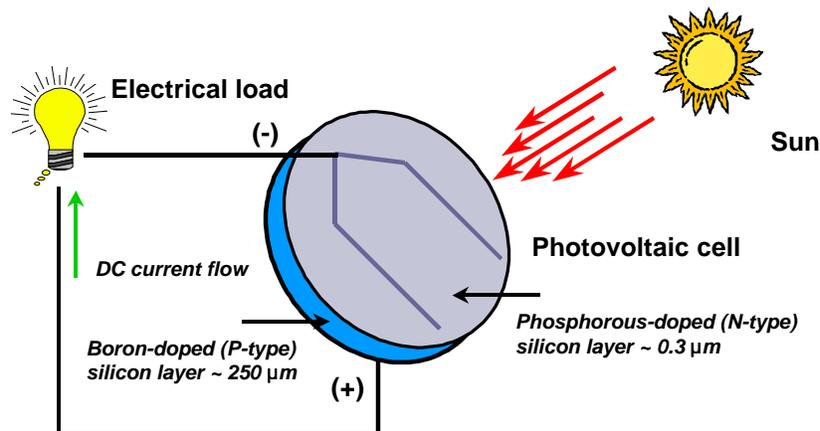

Figure 1. Diagram of photovoltaic cell.
| FIGURE 1. DIAGRAM OF PHOTOVOLTAIC CELL | 2 |
Q. *What are Photovoltaics (PV)?*
A. *Photovoltaic (PV) - or solar cells* as they are often referred to, are semiconductor devices that convert sunlight into direct-current (DC) electricity. A typical silicon PV cell is a thin wafer consisting of an ultra-thin layer of phosphorus-doped (N-type) silicon on top of a thicker layer of boron-doped (P-type) silicon. An electrical field is created near the top surface of the cell where these two materials are in contact, called the P-N junction. When sunlight strikes the surface of a PV cell, this electrical field provides momentum and direction to light-stimulated electrons, resulting in a flow of current when the cell is connected to an electrical load (Figure 1).